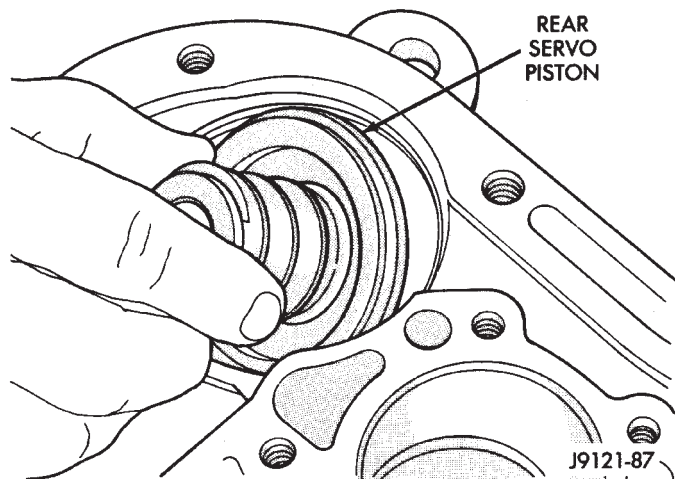

Fig. 121 Rear Servo Piston
(1) Lubricate rear servo piston seal with Mopar® Door Ease or ATF Plus 3. Lubricate servo bore in case with ATF Plus 3.
(2) Install rear servo piston in case. Position piston at slight angle to bore and insert piston with twisting motion (Fig. 121).